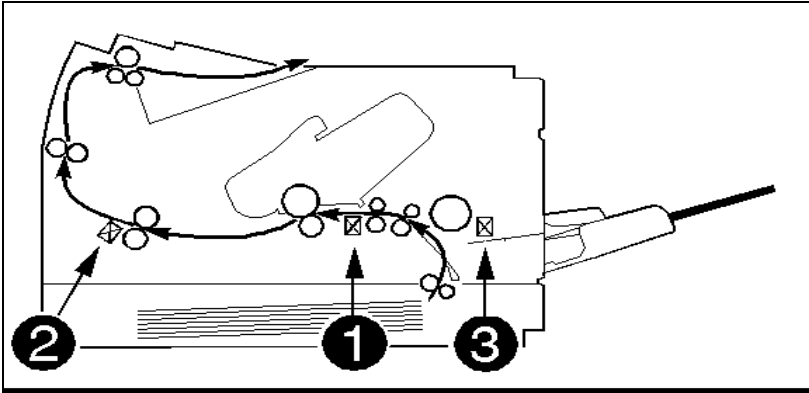

Figure 7-3 PS1 and PS3 (Paper Path Sensors) & PS5 Paper End Sensor
Paper jams occur when paper fails to arrive at or clear the paper path sensors in the allotted time. Paper movement is monitored primarily by two paper sensors. These are described below and illustrated in Figure 7-3).
Note also that if PS5 (MP Tray or Tray 1) Paper End Sensor on the Sensor PCA is bad (Figure 7-3, item 3), a paper jam will be reported when paper is fed from the MP Tray (or Tray 1).